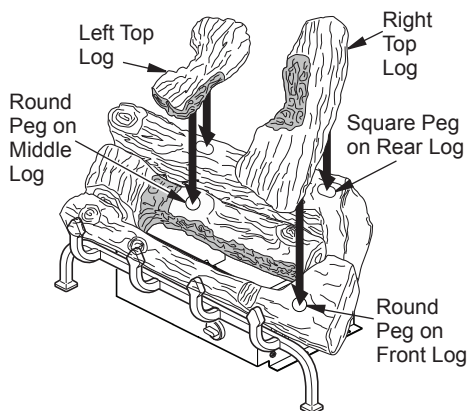

Figure 19 - Installing Left and Right Logs
4. Place left top log (#4) as shown in Figure 19. Match square peg on top of rear log (#1) with square hole on bottom of left top log (#4). Match round peg on top of middle log (#2) with round hole on bottom of left top log (#4).
5. Place right top log (#5) as shown in Figure 19. Match square peg on top of rear log (#1) with square hole on bottom of right top log (#5). Match round peg on top of front log (#3) with round hole on bottom of right top log (#5).